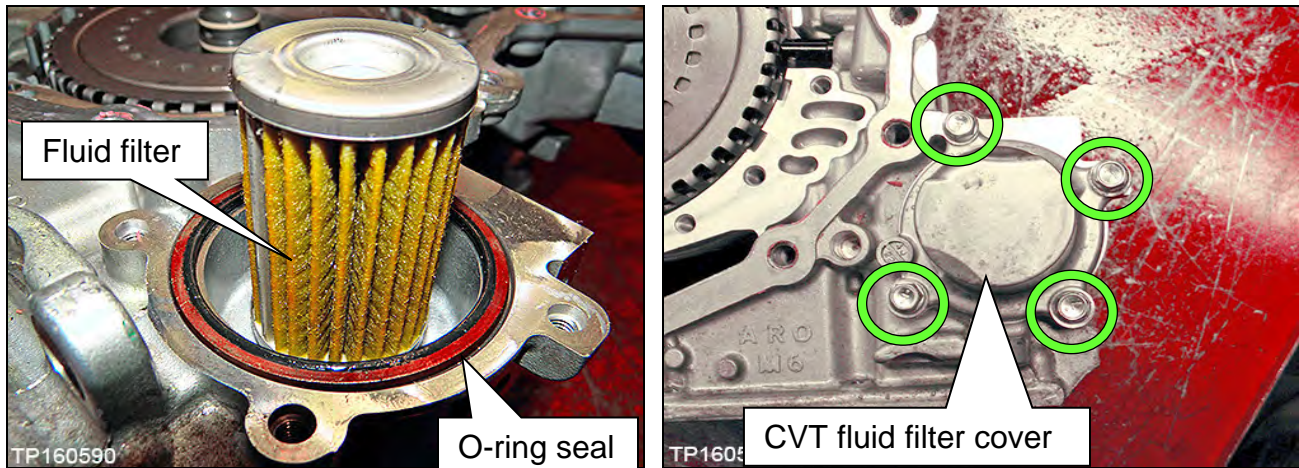

Figure 14l
13. Install the CVT fluid filter and components (Figure 14l).